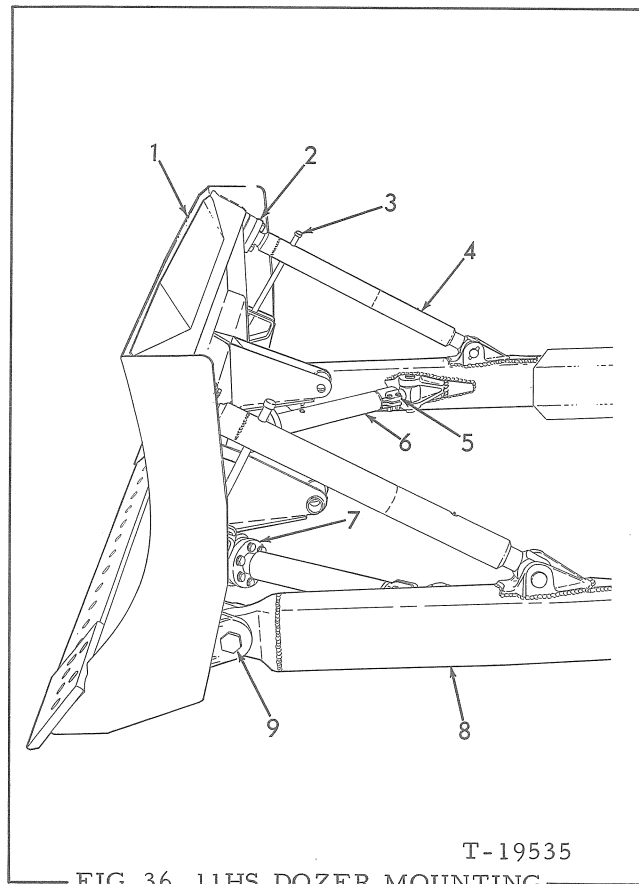

FIG. 36 11HS DOZER MOUNTING
Disconnect both tilt braces, Fig. 36 (4), from moldboard; refer to preceding NOTE.